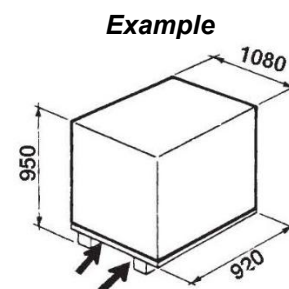

Fig. 2-4
- Insert the forks at the designated points (see figure 2-4).